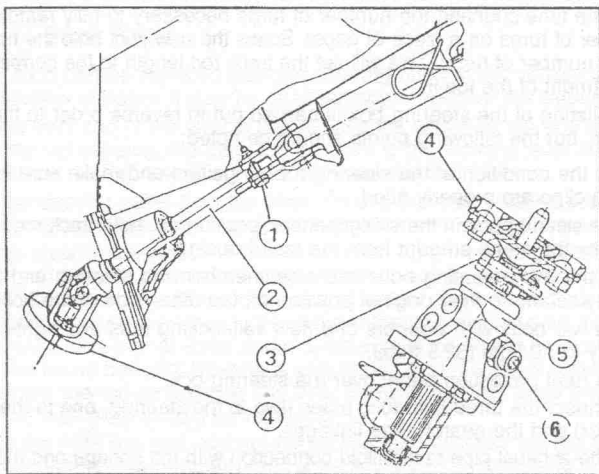

Fig. 5.3. — Details for the removal and installation of the steering. The numbers are referred to in the text.
Refer to Fig. 5.3 for the following operations:
- Disconnect the pipes connected to the steering unit. Do not unscrew, however, the connection (6) in Fig. 5.3. Underneath there is a valve which could be destroyed during installation or even get lost.